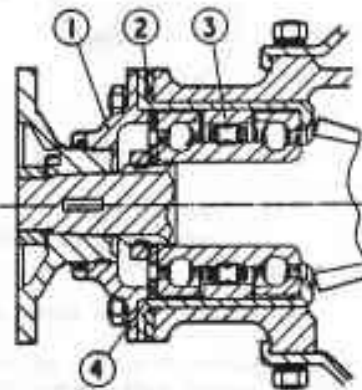
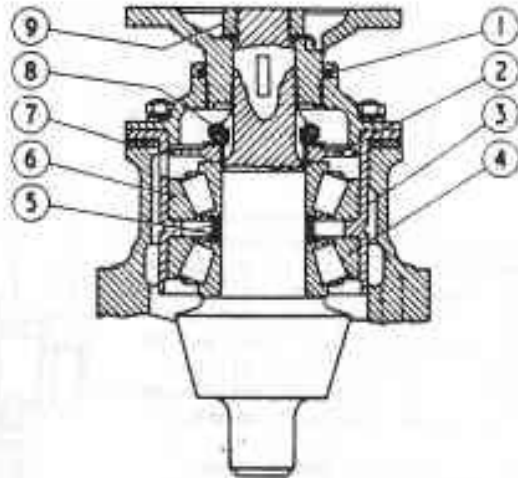

FIG. J8. PINION AND MULTIPLE BEARING.
FIG. J9. PINION AND ROLLER BEARING.
From Bentley chassis B.433.SP (12/41 axle) B.380.SR (11/41 axle), Silver Wraith chassis W.VH.77, Silver Dawn chassis S.M.F.42, taper roller bearings are fitted in place of the multiple bearing for the pinion, see Figs. J8 and J9.
3. Select adjusting washer (4, Fig. J8) to give .003" gap between cover and housing when cover is pressed down firmly by hand.
If the original spacing washer (2, Fig. J8, or 7, Fig. J9) is not of suitable thickness, select one from range.